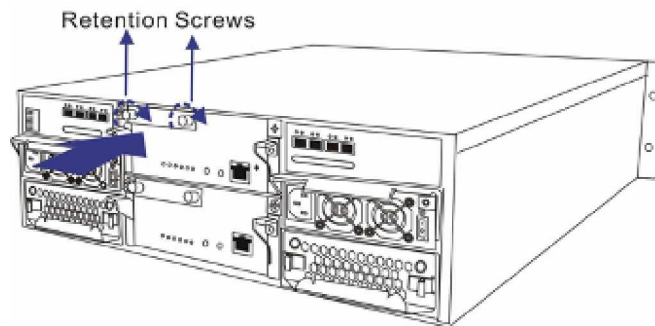

Figure 5-11: Fastening the BBU Retention Screws
**Step 3. Secure the BBU to the subsystem** by fastening the two (2) retention screws on the back of the BBU. (See *Figure 5-11*)